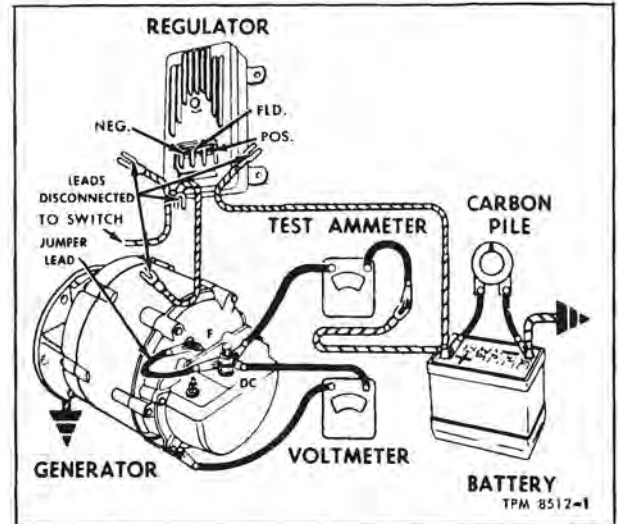

Figure 4—Checking Generator Output
## Generator Output Check (Fig. 4)
3. Connect a voltmeter and ammeter in circuit as shown in figure 4.